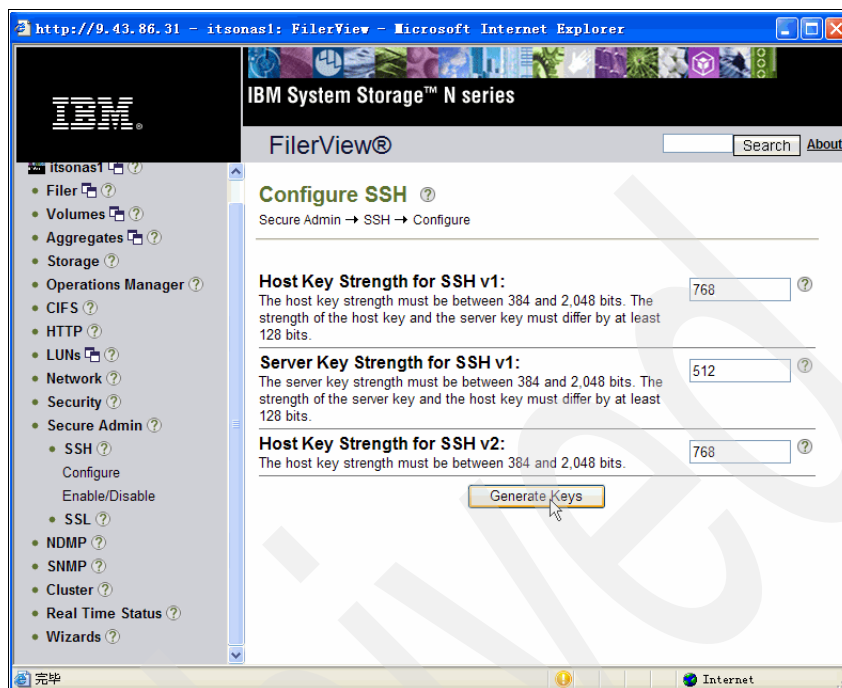

Figure 10-20 Generate a SSH key
1. In the Topic area of FilerView, as shown in Figure 10-20 on page 376, go to the Secure Admin page, and click the **Generate Keys** button to generate a SSH key.